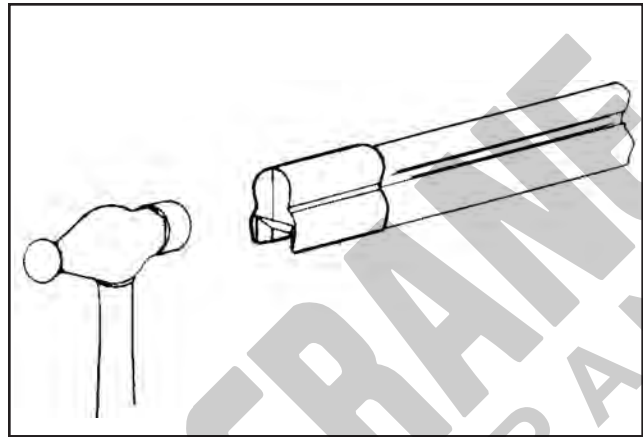

Figure 26-1
- A. Center end cover / transfer cap on the end of the bar. Tap lightly with a hammer until securely seated. See **Figure 26-1**.